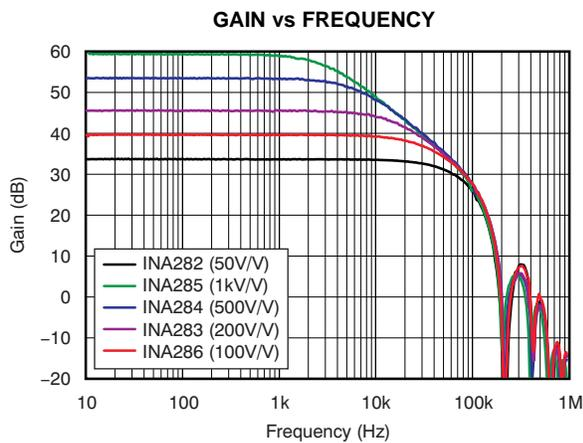

Figure 15.
(7) See typical characteristic graph Figure 15 and the Effective Bandwidth section in the Applications Information.